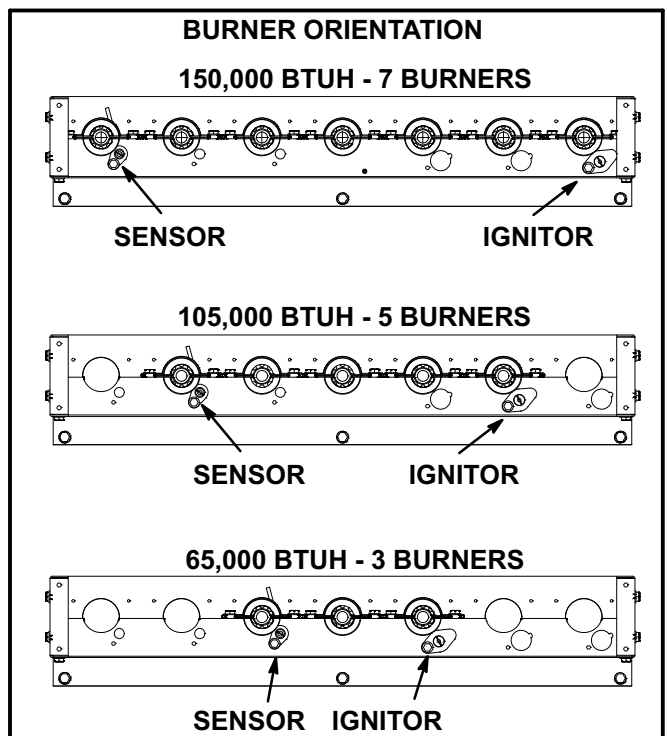

FIGURE 28
- 6- Replace burners and screws securing burner. See figure 28.